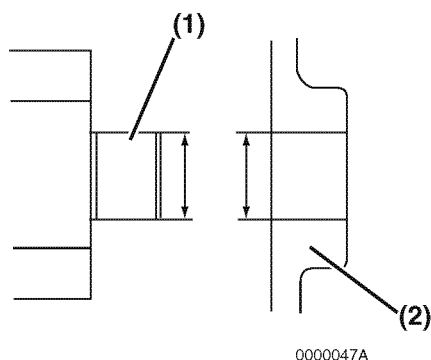

Figure 9-28
Determine the rotor shaft clearance. Measure the outside diameter of the rotor shaft **(Figure 9-28, (1))** and the bore diameter in the gear case housing **(Figure 9-28, (2))**.